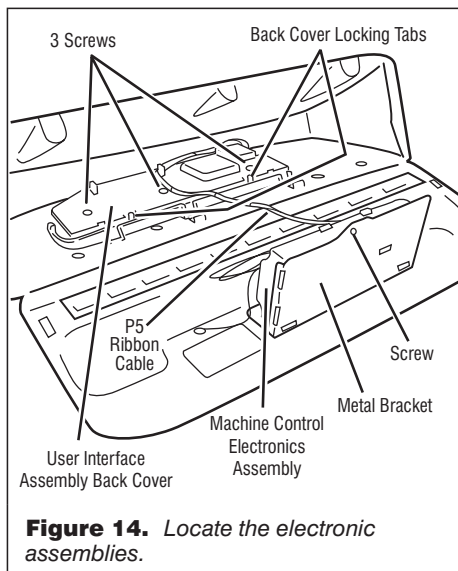

Figure 14. Locate the electronic assemblies.
There are two electronic assemblies; the machine control electronics and the user interface electronics. See figures 14 and 15.
4. Remove the one screw holding the machine control assembly to the metal bracket. See figure 14.
3. Remove the wire connections from the user interface assembly, including the P5 ribbon cable. See figure 14.
5. The user interface assembly is held to the console insert panel by three screws and two locking tabs. After the screws are removed, lift each of the locking tabs to remove the back cover of the user interface assembly. See figure 14.